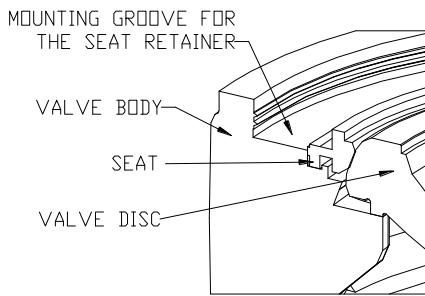

Fig. 20.1
- Insert the seat into the seat chamber. The seat must be somewhat floating on the valve disc (Fig.20.1)